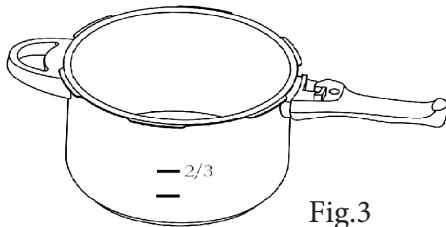

Fig.3
- Less than 2/3 of the cooker height for non-expansive food such as meat, vegetable, etc. (Fig. 3);